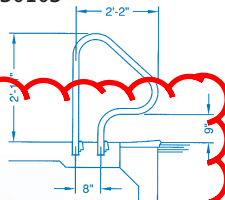

**Figure 4**
**Adjustable Figure 4**
Front leg is adjustable in field so it can be set atop curbs or into gutters. Choose this model when unusual conditions will not permit use of Figure 4 style.
**Welded Figure 4**